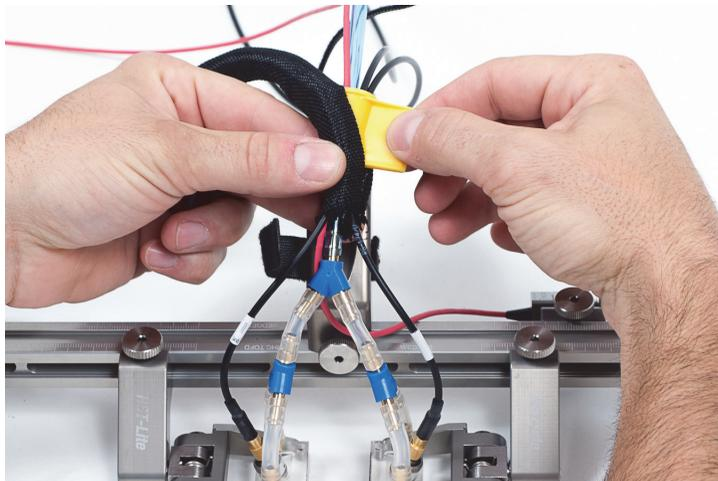

Figure 1-16 Cable sheath installed on the draw-in tool
4. Install the cable sheath over the draw-in tool, and then slide the tool to install the cable sheath (see Figure 1-16 on page 20).